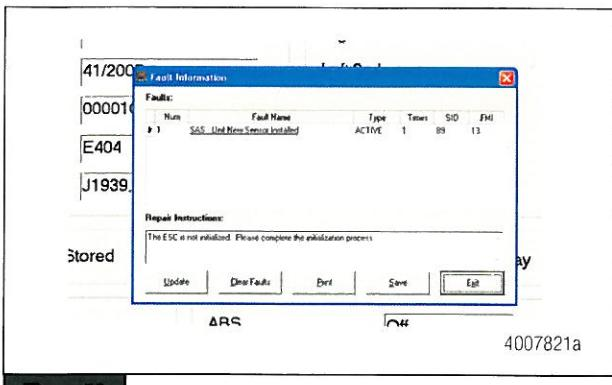

Figure 11
- For new vehicles or vehicles where the SAS has been replaced, the message box should show the Steering Angle Sensor code 89-13. Check the code to ensure it is correct. Figure 11.